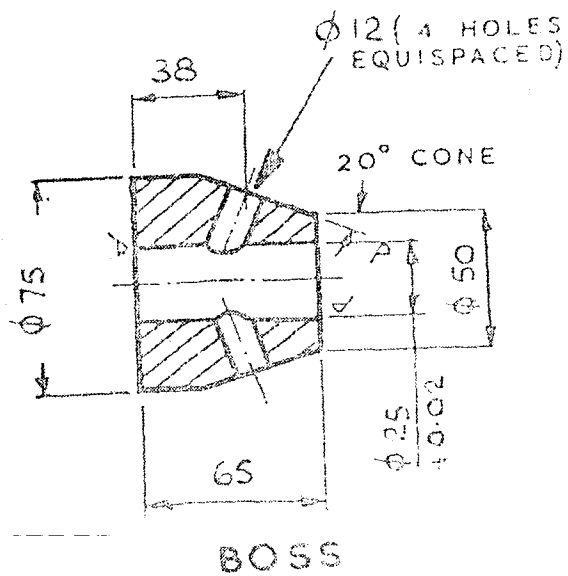

Fig. 1
Q.2 Design an index drilling jig for use when machining four 12 mm dia. holes in the Boss shown in fig. 1. The Boss in complete except for these holes. (10)